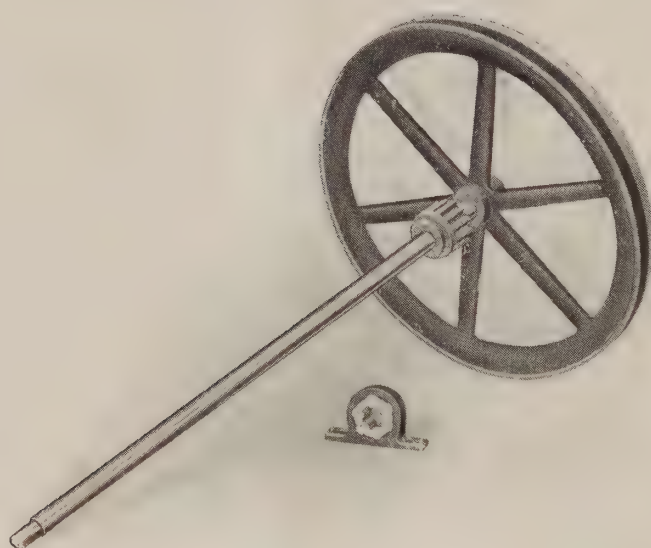

Figure 6. Rope Wheel.
**T**HE parts shown in figure 6 are the Rope or “Pull” Wheel and Pinion. These are accurately made and mounted on a heavy steel shaft. The periphery of the Rope Wheel, on which the brake operates, is accurately machined insuring a positive and easy stop.